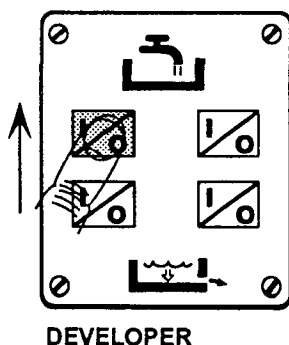

figure 16
9. If it is necessary to go back step by step, press the WATER VALVE SWITCH one time for each step (see figure 16+18). The same optical and audible alarms as mentioned in step 7+8 and shown in the table (figure 14) will be actuated again.